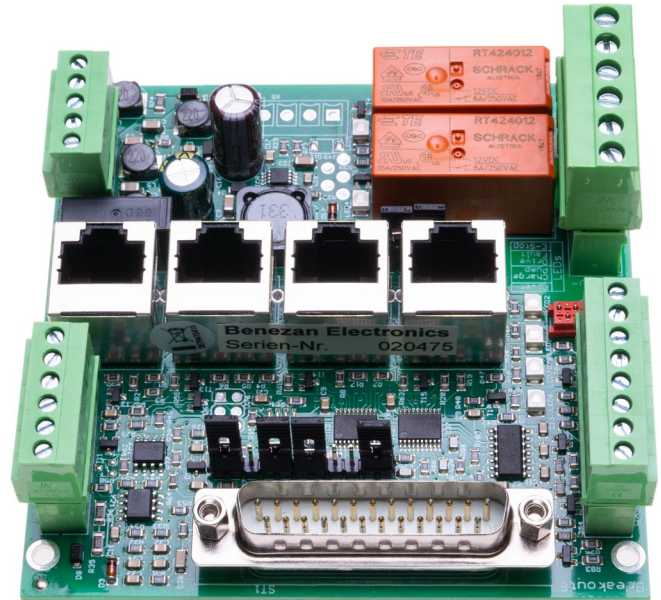

Fig. 14: Jumpering for use with Estlcam
- 1-2, 4-5, 6-7, 10-11 (see Fig. 14)